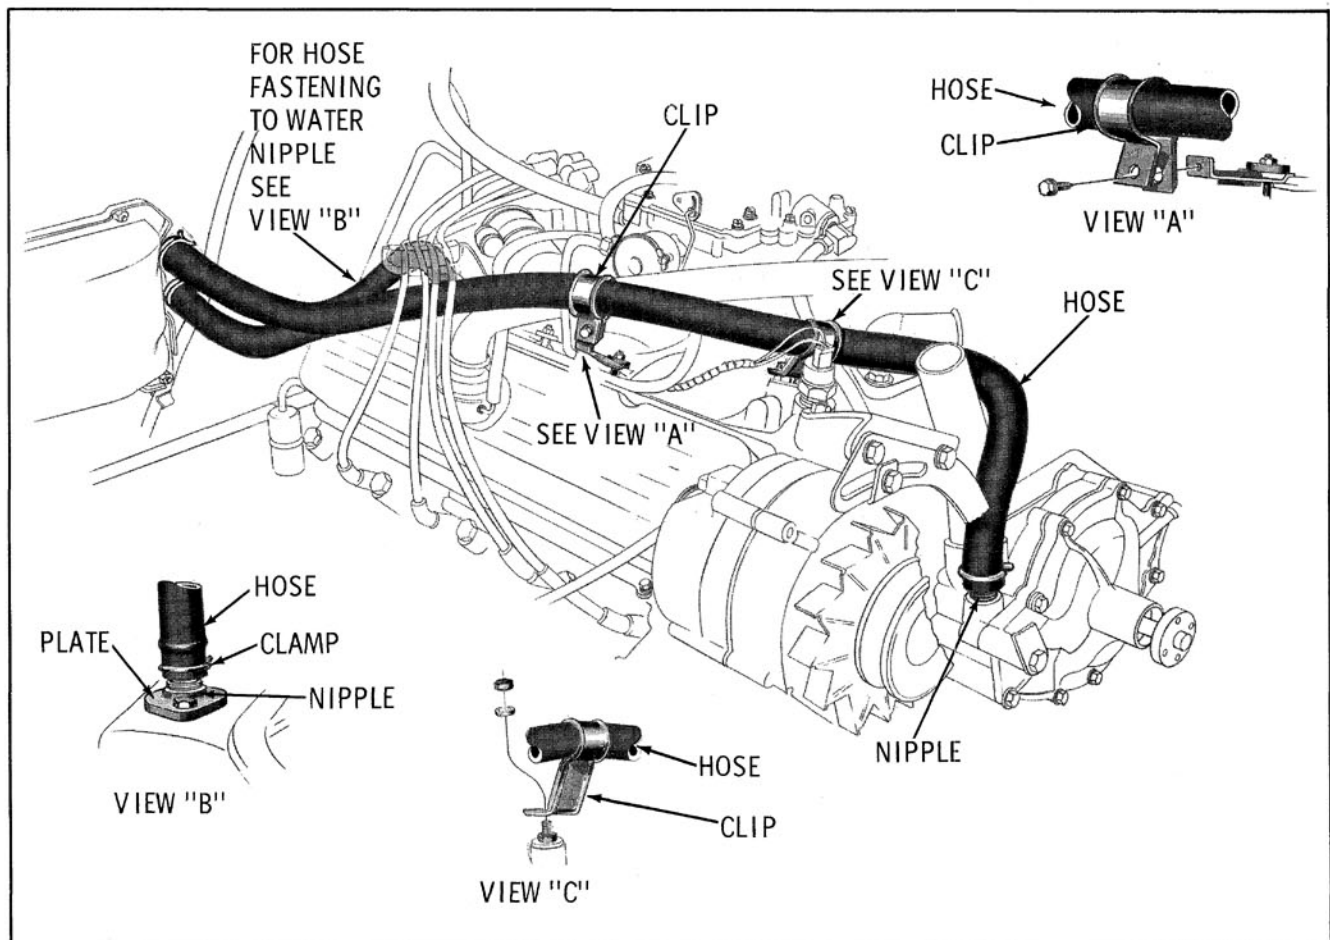

Fig. 14-11 Heater Hose Routing
3. Drain radiator below heater level, then disconnect heater hoses. (Fig. 14-11)